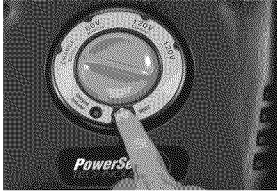

Figure 23 - Press Circuit Breaker
4. Press the white circuit breaker button back into the housing to reset (see Figure 23). The button should stay depressed when released. Plug the mower power cord back into the extension cord, if you are using 110V power.